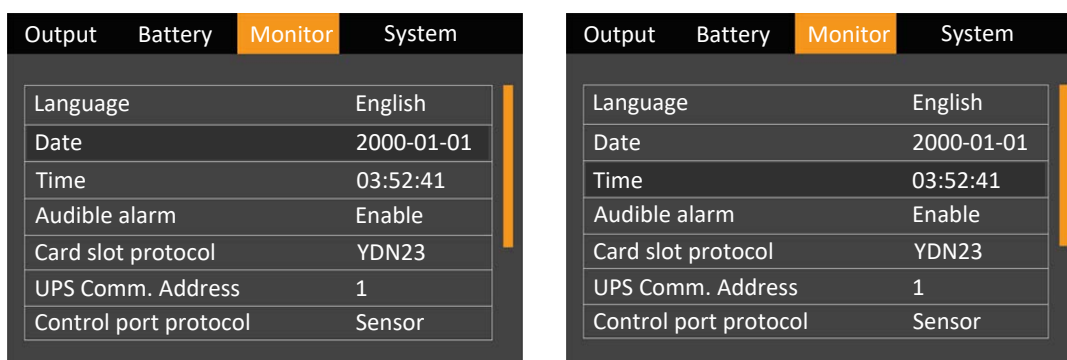

Figure 5-16 Selection of date and time
3. Press the key, and press the or key to highlight the date and time, see Figure 5-16.